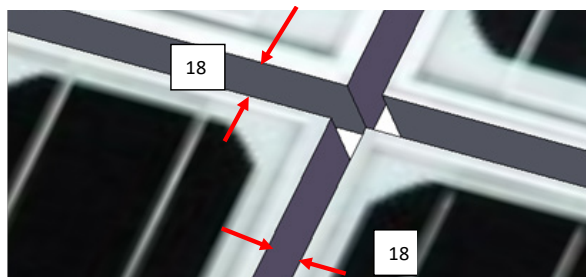

Fig. 26
Step 4 When using End and Inter clamps, maintain an 18mm vertical and horizontal gap between the two adjacent rows of PV Modules. You can use two Inter Clamps as separation between two PV Modules to achieve this and remove them after the installation is completed as shown in Fig. 26.